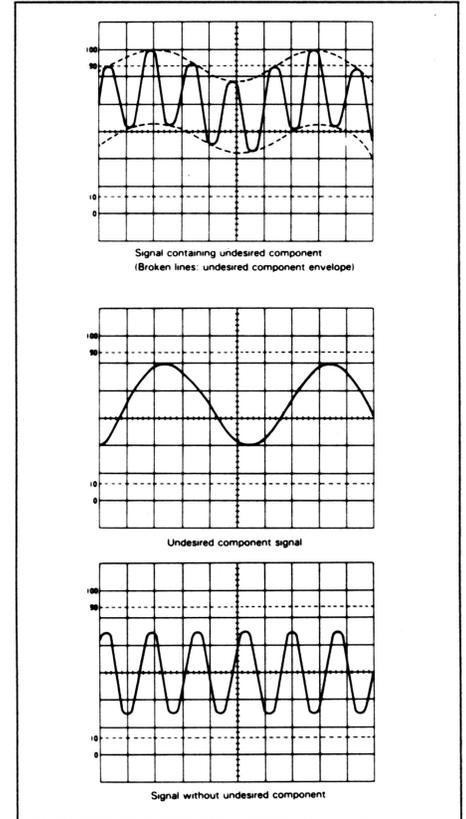

Fig. 26. Eliminating an undesired signal component
(Refer to Fig. 26)
superimposed on an rf signal). The first waveform of Fig. 26 shows such a composite waveform, although in this simplified illustration the two signals are relatively close to each other in frequency.
3. Now set the oscilloscope for single-trace display: Set the trigger source for the channel that is connected to the undesired signal by itself and set the scope for the add mode of operation. Adjust the Volts/Div and variable input attenuator controls for the channel that can be inverted so that the undesired signal component is canceled as much as possible. The remaining signal should be the signal you wish to observe alone, free of the unwanted signal. Such a result is shown in the bottom waveform of Fig. 26.